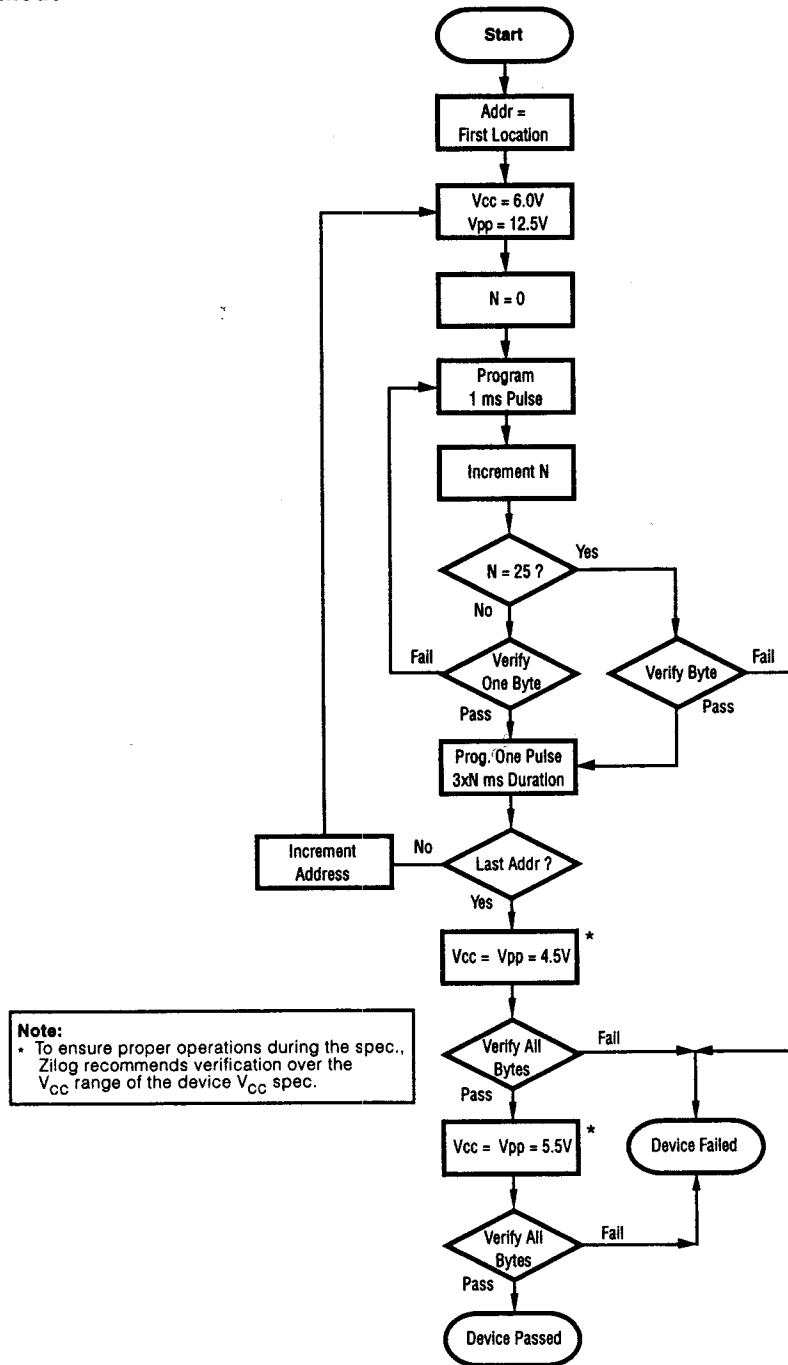

Figure 27. Z86E03/E06 Programming Algorithm
**Programming Algorithm.** Figure 27 shows the flow chart of the Z86E03/E06 programming algorithm.